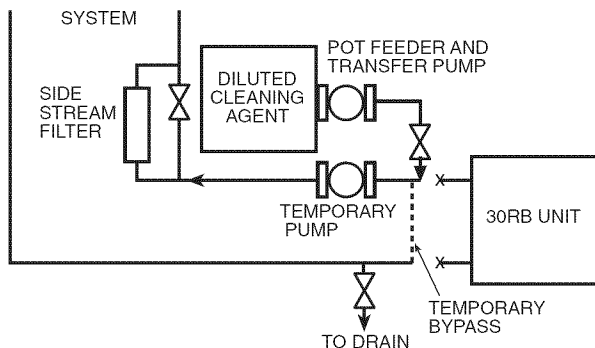

Fig. 38 — Cleaning Using a Side Stream Filter
- c. A side stream filter is recommended (see Fig. 38) during the cleaning process. Filter side flow rate should be enough to filter the entire water volume every 3 to 4 hours. Change filters as often as necessary during the cleaning process.